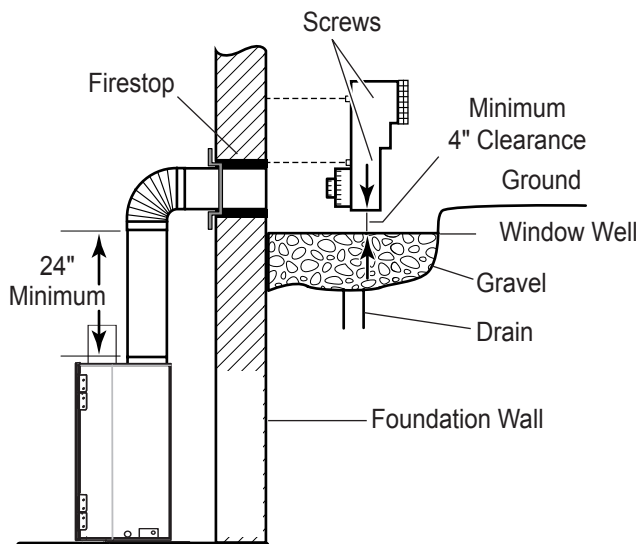

Figure 23 - Below Grade Installation
6. Level the soil so as to maintain a 4" clearance below snorkel. *See Figure 23.*